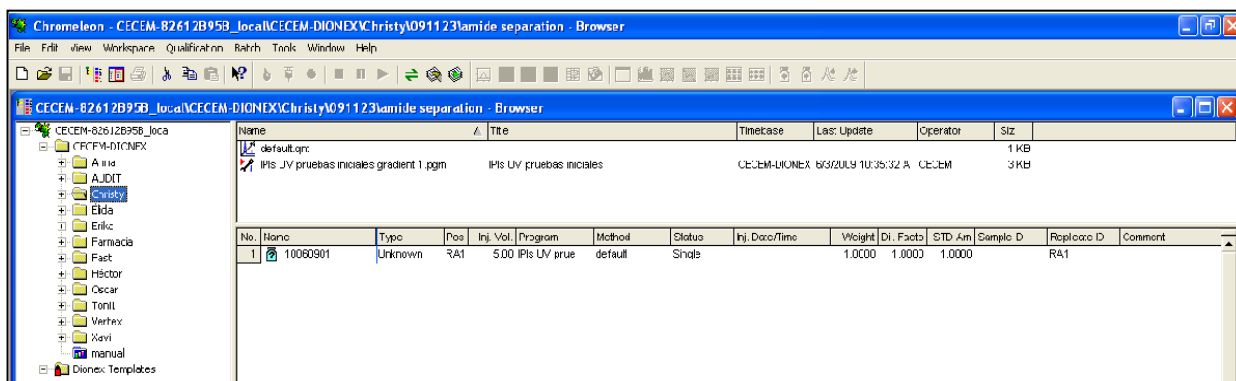

Figure 7. Chromeleon browser window.
- 6.2.2.5. Double-click on the **Chromel** icon found at the desktop to open the Chromeleon software. The active window would normally default to the Browser window which was last opened by the previous user. (See Figure 7)